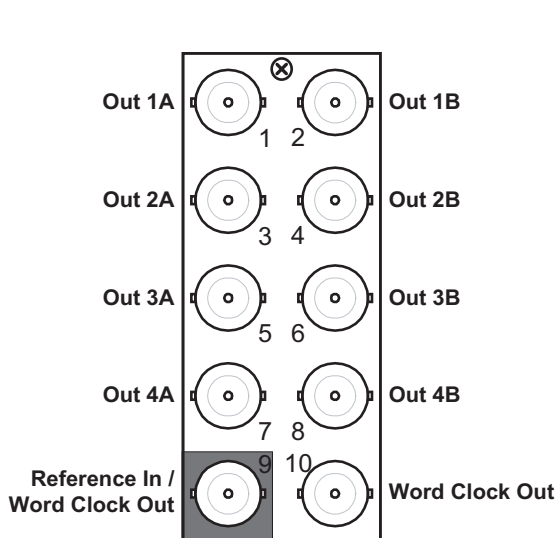

Figure 2.4 Cable Connections for the 8310AR-030 and 8320AR-030 Rear Modules
Each **8310AR-030** rear module occupies one slot and accommodates one card. This rear module provides eight video outputs and a Word Clock output. Depending on your configuration, there can be a reference input or a second Word Clock output on BNC 9. (**Figure 2.4**)
- **8320AR-030** Full Rear Module — Each rear module occupies two slots and accommodates one card. This rear module provides eight video outputs and a Word Clock output. Depending on your configuration, there can be a reference input or a second Word Clock output on BNC 9. (**Figure 2.4**)